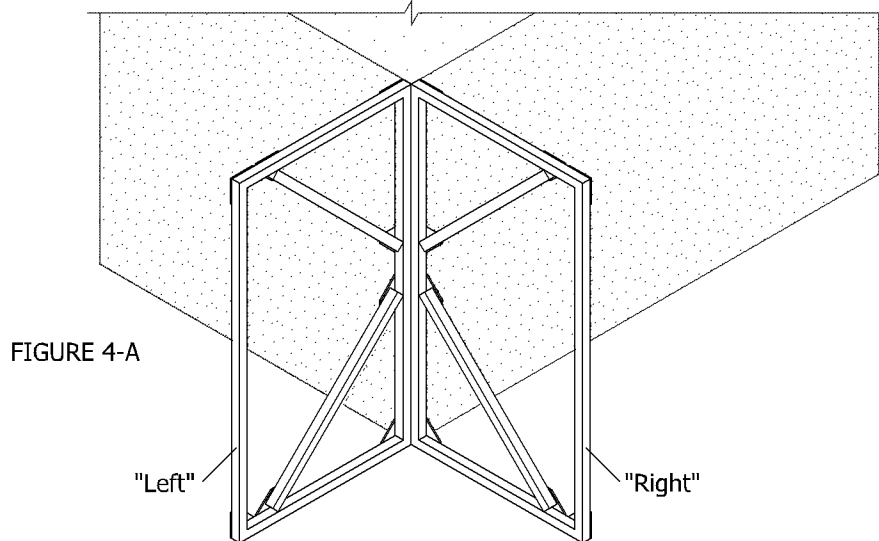

FIGURE 4-A
4. Mount the mating standoff support at the corner following the same procedure (see Figure 4-A). Bolts and brackets must face away from the corner. Each corner uses one "Left" and one "Right" support (see section "Standoff Support Configurations" on p. 2 for details).